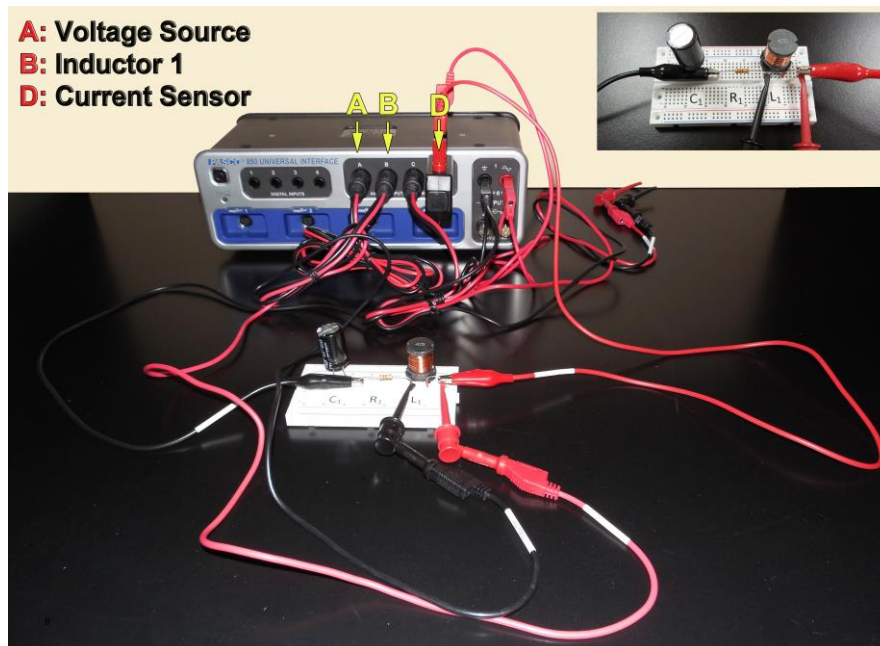

Figure 6
- Connect the RL Circuit together using  $R_1$ ,  $L_1$  and the interface as in **Figure 6**. The AC source is from Output 1 of the interface. The current sensor, attached to Input D on the interface, is wired in series from the positive side of the source to the inductor  $L_1$ . The voltage sensor, attached to Input B on the interface, is connected across the inductor  $L_1$ .